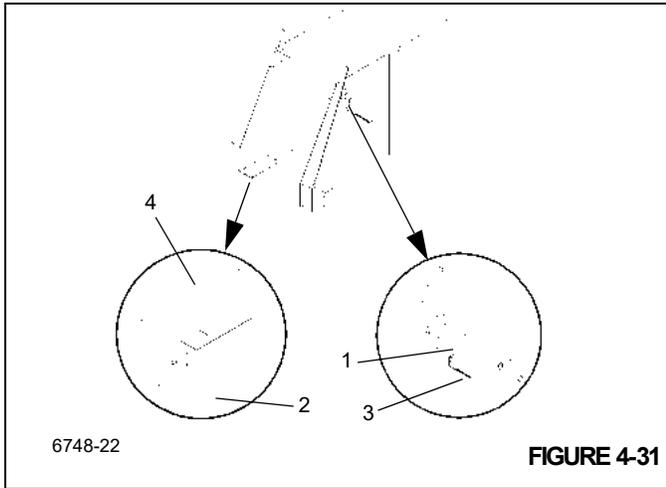

FIGURE 4-31
9. Remove the two screws securing each top (1), (Figure 4-31) and bottom (2), (Figure 4-31) side wear pads at the front of the outer mid section. Remove the
wear pads, shims, and mounting angle (3), (Figure 4-31) (top left side only).
10. Lift up on the front of the fly assembly and remove the wear pads (4), (Figure 4-31) from the pockets in the bottom of the outer mid section.